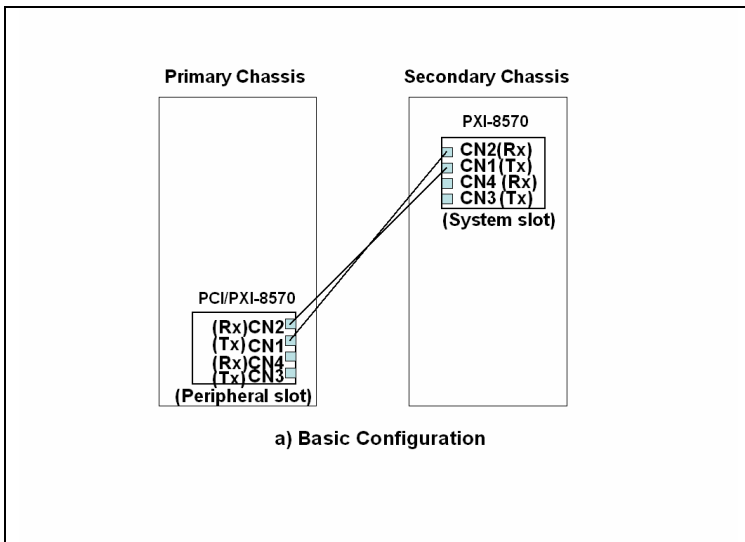
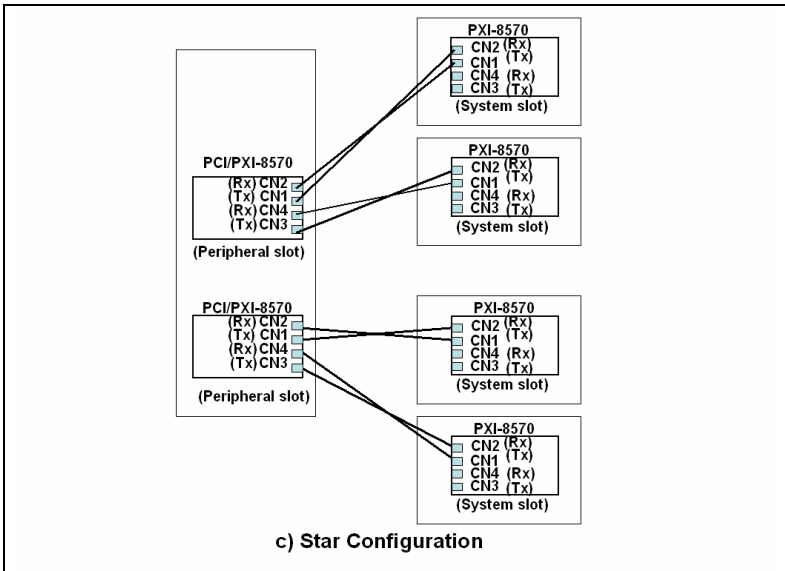

Figure 2.3 Basic PCI extension configuration – extend one PCI segment
Figure 2.5 Star configuration
Because PCI/PXI-8570 extension module functions as standard PCI-to-PCI bridge, it can take advantage of a variety of extension configurations. Figure 2.3 & 2.4 show the most basic PCI extension configuration. Each primary extension module can connect to two secondary extension modules at most in order to extend two PCI segments. Figure 2.5 & 2.6 show the Star and Daisy-chain configurations to extend more than two PXI chassis.
1. Connect the copper cables to both primary and secondary extension modules. Two cables are needed while linking the primary and secondary modules. One cable is used for connecting transmit (Tx – black if ADLINK cables are used) of primary module with receive (Rx) of secondary module. The other is used for connecting receive (Rx – red if ADLINK cables are used) of primary module with transmit (Tx) of secondary module. Please refer to Figure 2.3 and 2.4 for the connection. Turn on the system with the secondary extension module first.